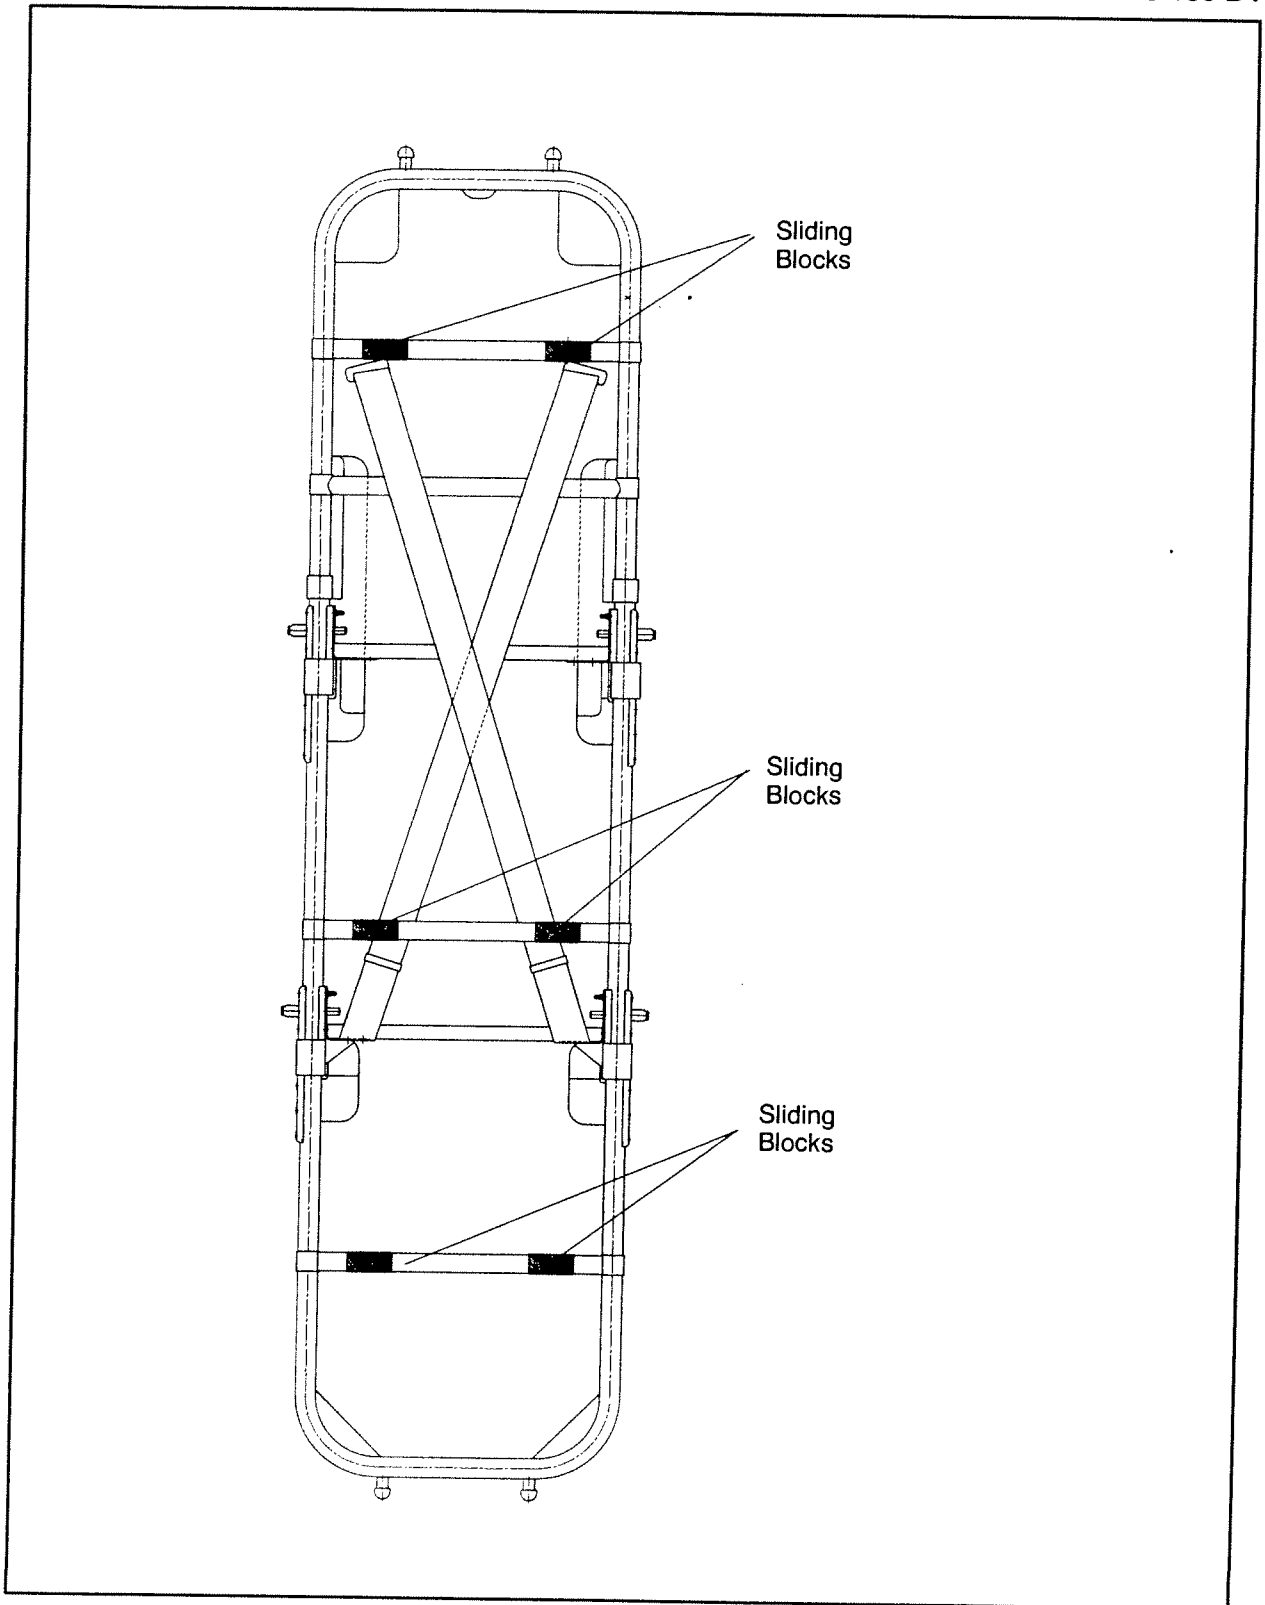

Figure 5 Location of Sliding Blocks (7 place shown, 8 place shown)
- c. Disengage the FWD support beam pin assembly (1 place) from the MID support, and move the FWD support away from the MID support and up off of the floor studs. Remove the FWD support. Refer to Figure 5.
- b. Fit the mounting holes in the AFT support over the two aft cabin floor studs and lock in place. Refer to Figure 5.